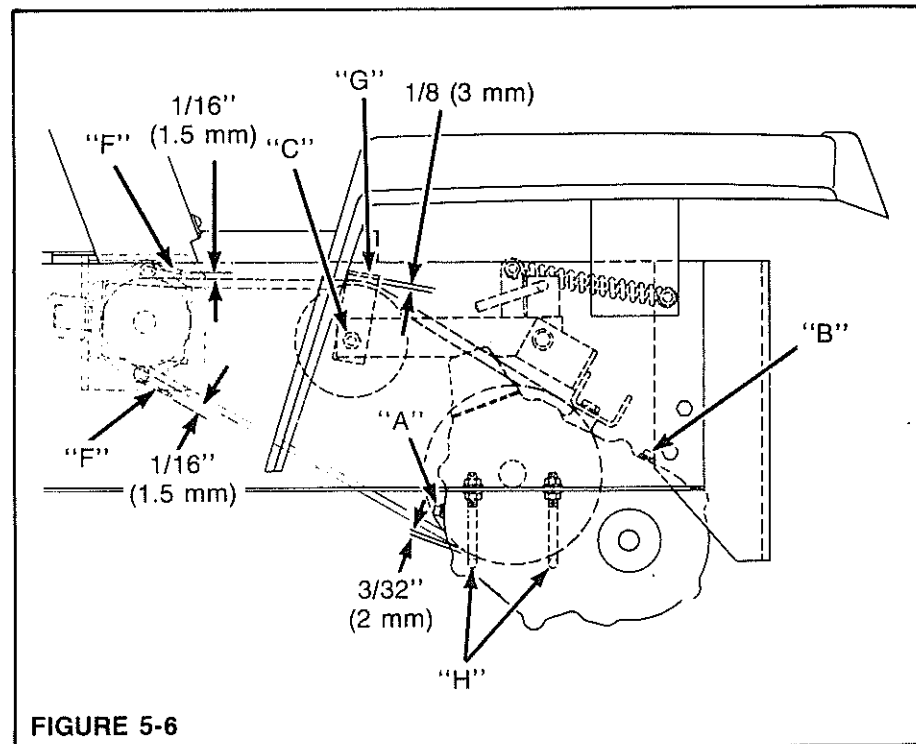

FIGURE 5-6
1. Belt guides (F) Figure 5-6 on right angle drive support should be 1/16 in. (1.5 mm) away from belt.
2. Guide (G) at idler should be in approximate position shown in Figure 5-6 and 1/8 in. (3 mm) away from belt.
3. Belt guides (H) should be adjusted 3/32" (2 mm) away from drive belt.